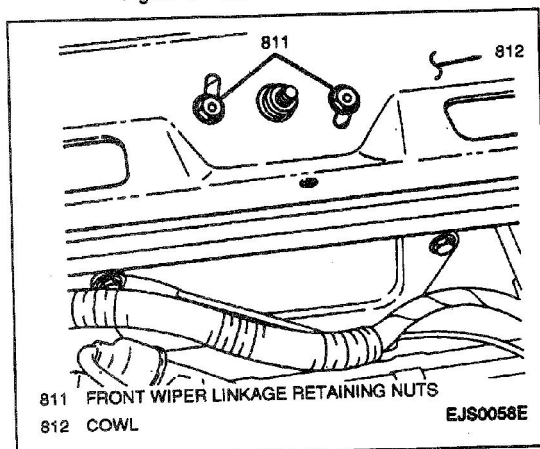

Figure 7—Front Wiper Linkage Retaining Nuts
9. Four retaining nuts securing front wiper linkage to bulkhead (Figure 7).